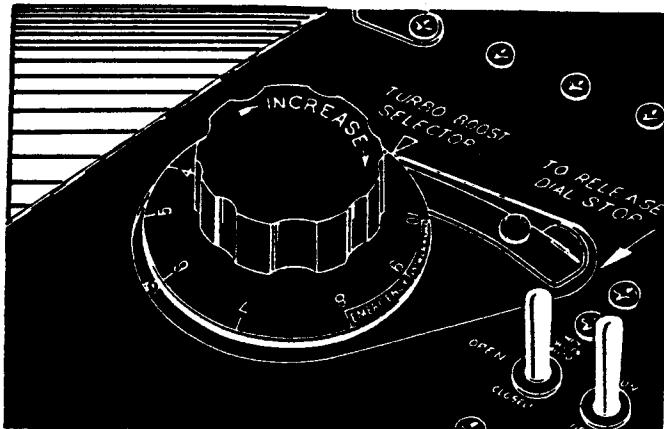

Figure 26. Pilot's Turbo Control
f. TURBOSUPERCHARGER CONTROLS. (See 8 figure 24 and figure 26.)- The pilot and engineer are furnished with dial-type turbo boost selector controls which are mechanically interconnected. In this manner all turbos are synchronized to a single dial setting which may be selected by either the pilot or engineer. The turbo boost control box is located under the engineer's table and individual boost adjustments may be made by means of the four knobs on the face of the box. (See 9, figure 24.)